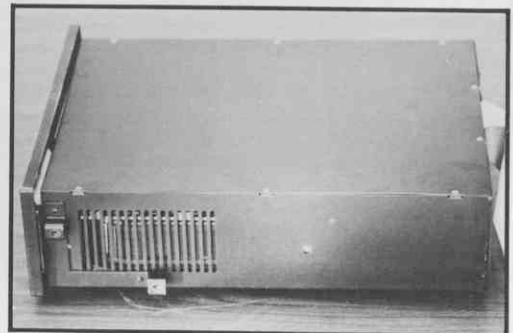

Figure 99 Inner Cover
6.42 The inner cover, if you have one, should now be visible. Remove eight (8) Phillips screws which fasten the inner cover of the unit (Figure 99).